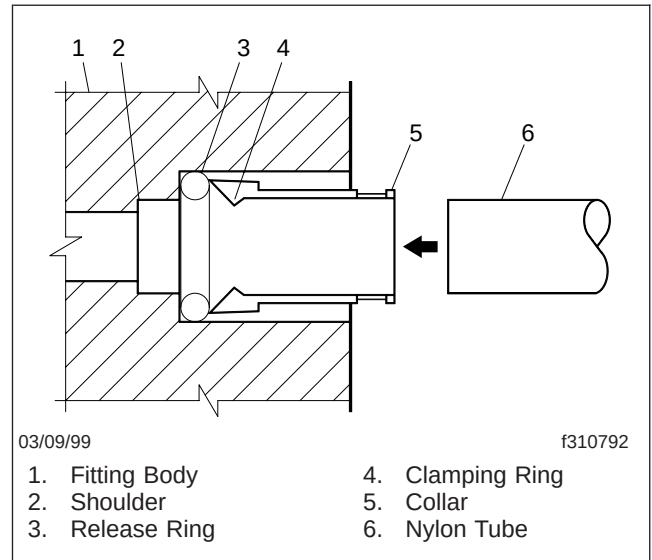

Fig. 1, Parts of the Quick-Connect Fitting
6. Push the collar of the quick-connect fitting into the fitting body with a 1/4-inch (7-mm) open-end wrench; see Fig. 1. With the collar pushed into the fitting, pull the tubing from the fitting. The fitting should easily release the tubing.